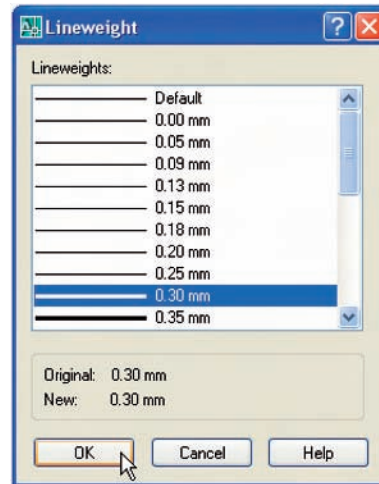

Fig. 4.21 The **Lineweight** dialog
7. *Click* on any of the lineweights in the **Layer Properties Manager**. This brings up the **Lineweight** dialog (Fig. 4.21). Select the lineweight **0.3**. Repeat the same for all other layers. Then *click* the **OK** button of the **Layer Properties Manager**.